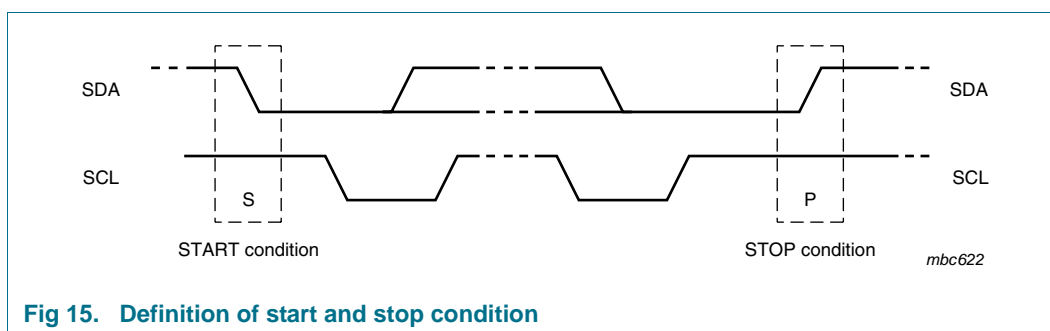

Fig 15. Definition of start and stop condition
A LOW-to-HIGH transition of the data line while the clock is HIGH is defined as the STOP condition (P) (see Figure 15).